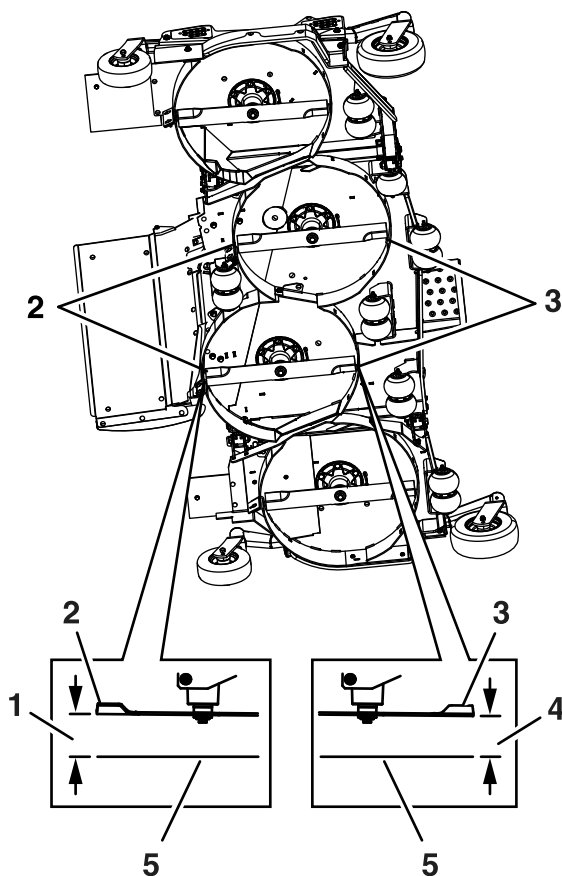

Figure 72
10. Measure from the level surface to the front tip of the left and right center deck blades (Figure 72).